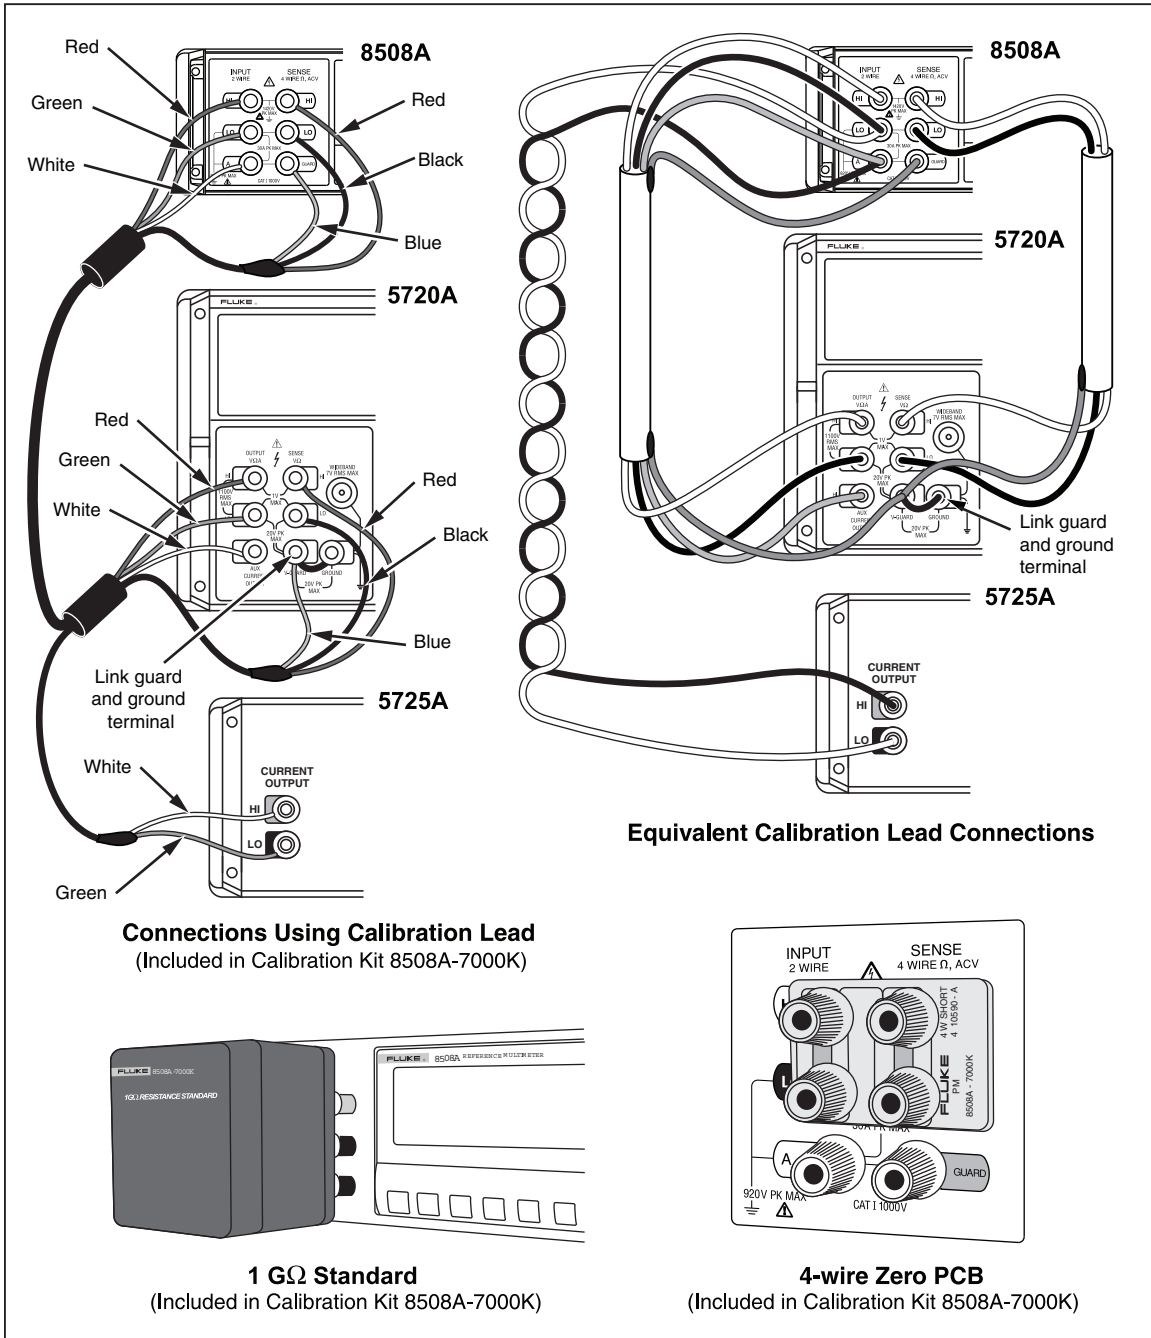

Figure 6-1. Equipment Connections Required for Calibration
The Fluke 8508A-7000K Calibration kit contains a specially designed lead set which connects directly to the terminals of the 8508A, the 5720A, and the 5725A for the purpose of 8508A calibration. It is recommended that this lead kit be used to avoid introducing measurement errors due to interconnections and to duplicate the configuration used by Fluke for 8508A calibration. Figure 6-1 shows the interconnections used in detail. If alternate leads are substituted, make sure they are metrology grade leads, and of adequate voltage and current ratings. Leads should be kept as short as possible, constructed from low capacitance low leakage dielectric material (PTFE) with low thermal emf terminations, and exactly duplicate the configuration and interconnections shown.
8. Connect the Calibrator to the 8508A as shown in Figure 6-1.
5. Connect the Calibrator to the 8508A as shown in Figure 6-1.